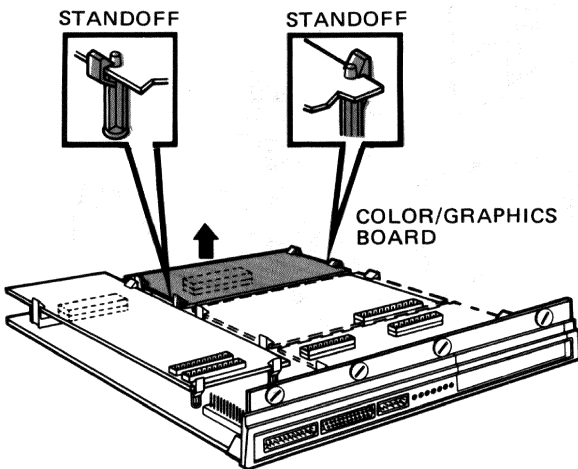

Figure 5-11 Color/Graphics Option Board Removal
2. Push the top of each standoff aside and lift the color/graphics option board off of the system module. See Figure 5-11.